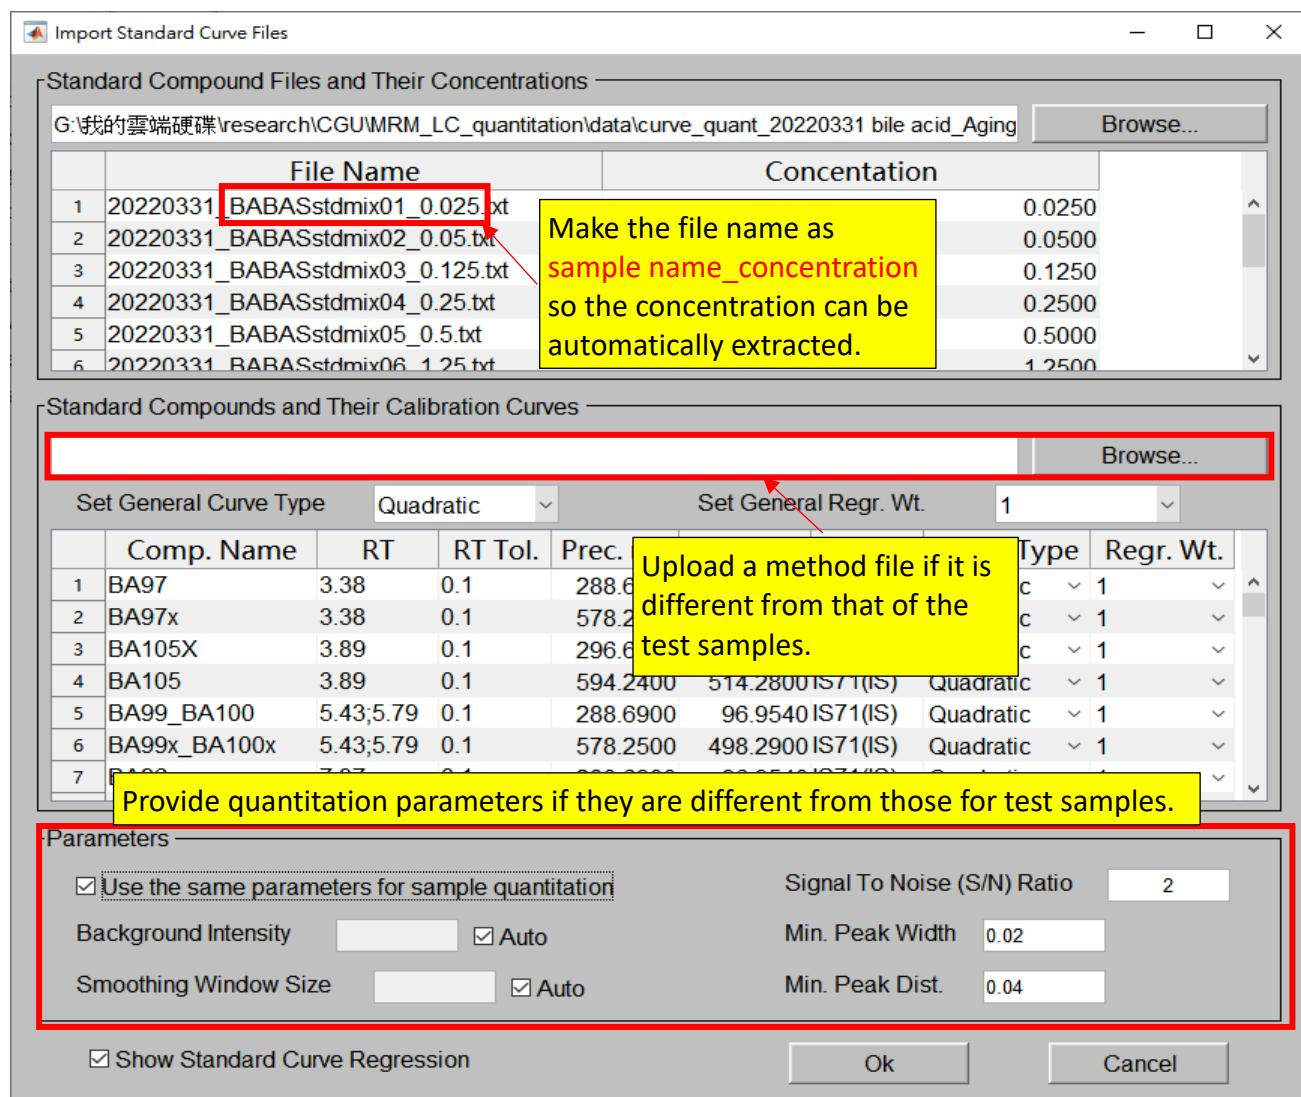
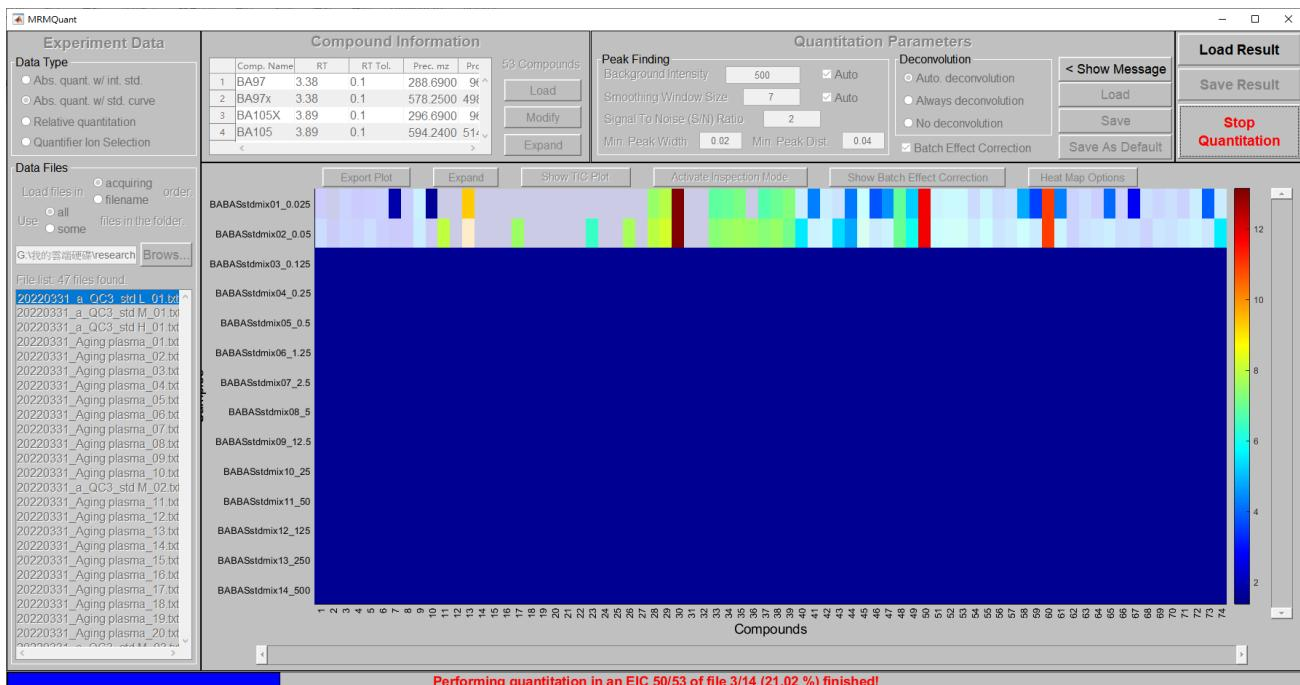
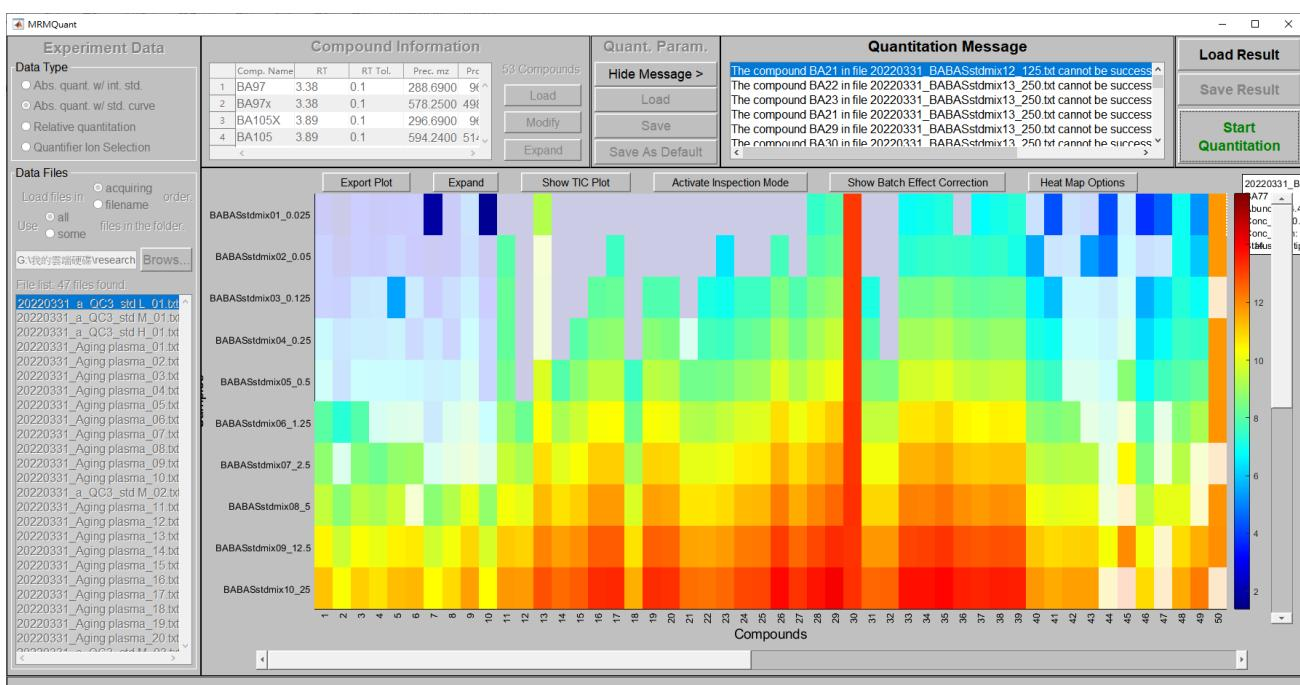
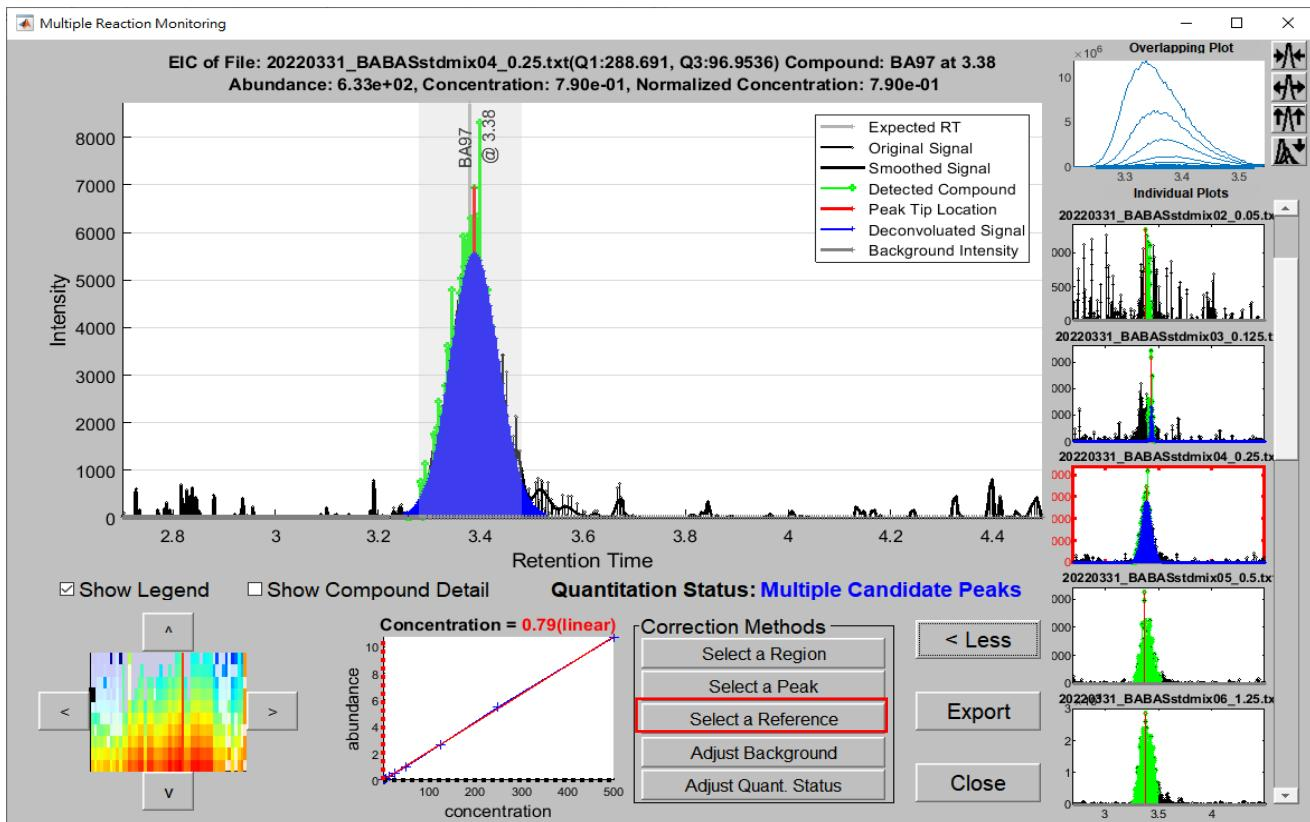

Figure 39. The “Import Standard Curve Files” window for standard curve generation.
Figure 41. The quantitation is performed on the samples for standard curve generation.
Figure 42. The quantitation result in heat map form of the data for standard curve generation.
Figure 48. The Multiple Reaction Monitoring window for peak area correction.
Figure 39. In this window, the user needs to provide (1) the sample files for the standard curve generation, (2) the method file for the targeted compounds in the sample files, and (3) the quantitation parameters. Except for the first item, the latter two information can use the same ones as those for the testing sample files in steps 4 and 5. The files are suggested to be named as sample name\_concentration so that MRMQuant can automatically extract the concentrations from the file names, as shown in Figure 39. Users can change curve types (quadratic or linear) and regression weights ( $1$ ,  $1/x$ ,  $1/x^2$ ) for all compounds using the dropdown menus at the top of the “Standard Compounds and their Calibration Curve” section. These entities can also be changed for individual compound using the dropdown menus at the end of each row, as shown in Figure 40. Once all the information for the standard curve generation is provided, the user can press the “Ok” button and the quantitation process of the samples for the standard curve generation will be commenced, as shown in Figure 41. The quantitation result in heat map form is shown in Figure 42. Note that the cells with the 20% transparent grey mask indicate those results that require further inspection and those with white color denote saturated peaks.
However, for samples with low concentration, their signal intensities in the ion chromatogram are usually low and hence susceptible to noise and subsequently lead to inaccurate peak detection and quantitation, as shown in Figure 47. When some of the peaks are not correctly quantitated, the user can click on the corresponding ion chromatogram and it will bring up the Multiple Reaction Monitoring window, as shown in Figure 17. For details about how to use the five correction methods to correct the quantitation, please refer to section 9. **Activate/deactivate inspection mode**. Here, we simply demonstrate how to use the “select a reference” method to fix the inconsistency problem of a compound across multiple samples. For example, we click on the fourth chromatogram on the right and it will bring up the Multiple Reaction Monitoring window, as shown in Figure 48.
In Figure 47, if the “Select a Reference” button is pressed, a window that allows the user to specify the reference sample will be brought up. Because there is only one batch in the standard curve samples, one sample is to be assigned as the reference, as shown in Figure 48. In this case, the sample with concentration 50 is selected as the reference since this sample has higher concentration and thus the compound herein is more likely to have higher peak signals. Although there are samples with higher concentrations (125, 250, 500), they consist of saturation peaks, as shown in Figure 41.